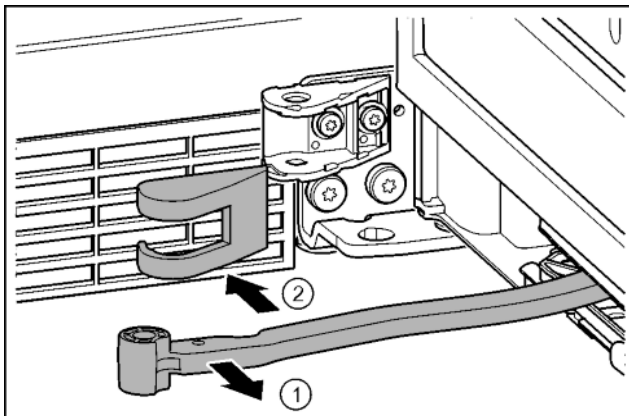

Fig. 18
- ▶ Turn the hinge in the direction of the door. Fig. 18 (1)
- ▶ Remove the mounting block cover. Fig. 18 (2)